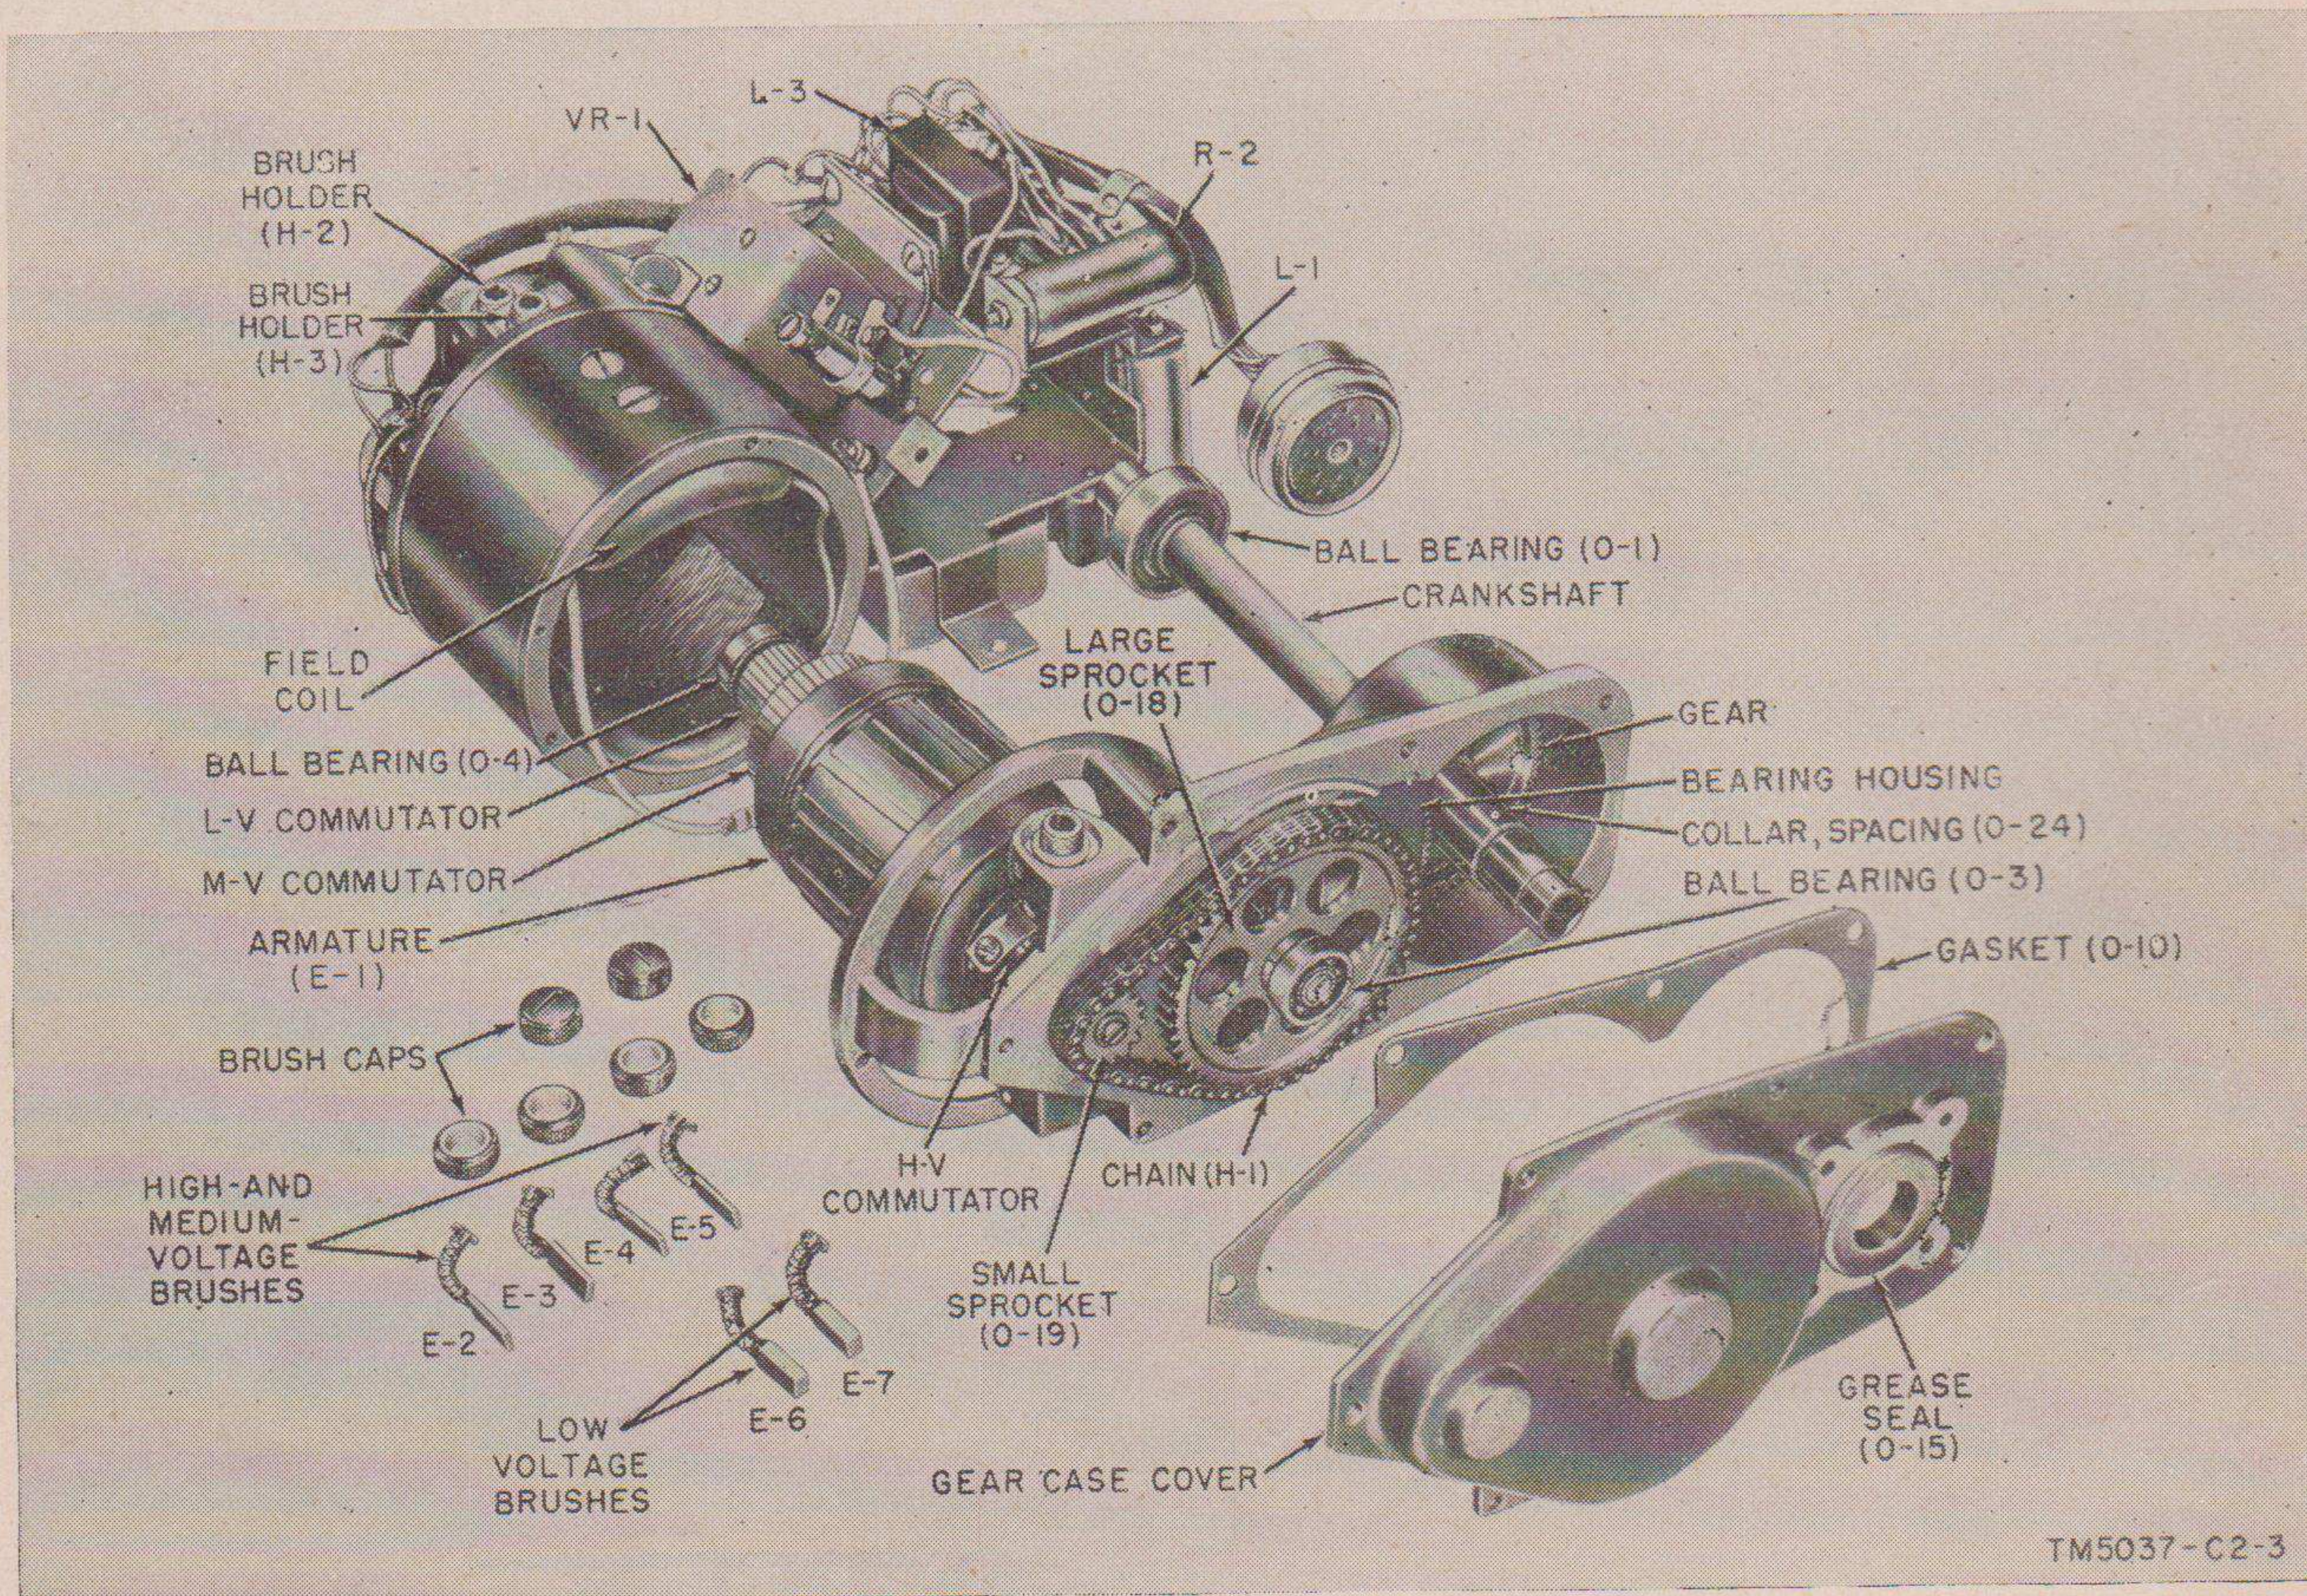

Figure 7.1 (Added). Generator G-8A/GRC, disassembled for lubrication.
If there is an excessive grease film on the high-voltage end of the armature assembly (fig. 7.1), replace grease seal O 25 as follows:
b. Grease seal O 25 is an O-ring. It is mounted in, and seals, the armature shaft passage that enters the gear case (on the opposite side of the frame from the small sprocket shown in figure 7.1). Pry the O-ring out of its slot with a narrow blade screwdriver.
c.1 (Added) In Generator G-8A/GRC, the armature sprocket is the only part of the gear train that can be removed independently. To remove the other shaft, gear, or sprocket subassemblies, the entire gear train and crankshaft (fig. 7.1) must be removed and reassembled simultaneously. All